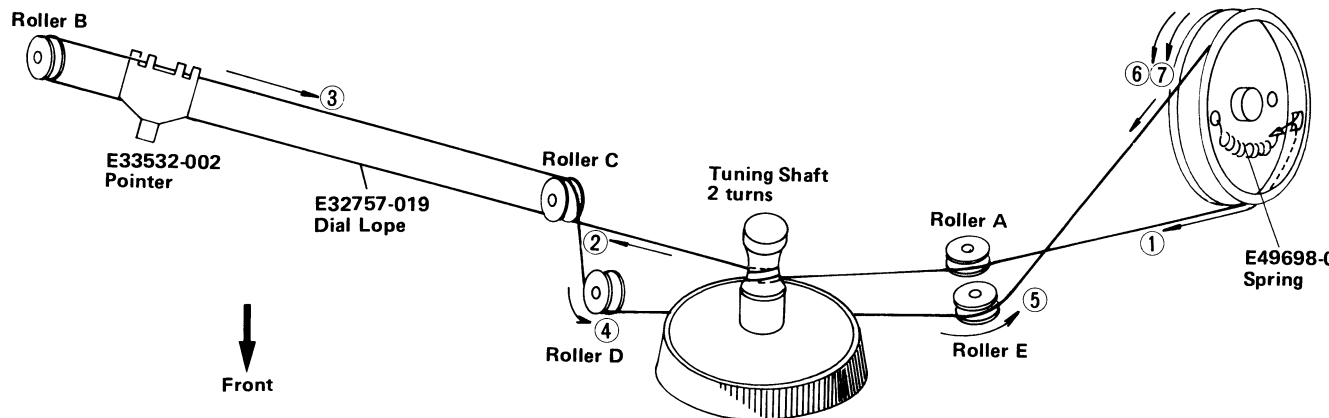

Fig. 14
8. Guide the dial cord over the dial drum and wind 2-1/2 turns counterclockwise. See Fig. 14.
11. Place the dial cord over and under the tabs on the rear of the dial pointer and place the dial pointer on the top of the dial panel rail. See Fig. 14.
12. Turn the tuning shaft clockwise. Slide the dial pointer to ZERO (0) calibration marker on the logging scale while holding the tuning shaft fully clockwise. Cement the dial pointer to dial cord to prevent slippage. Allow cement to dry thoroughly.